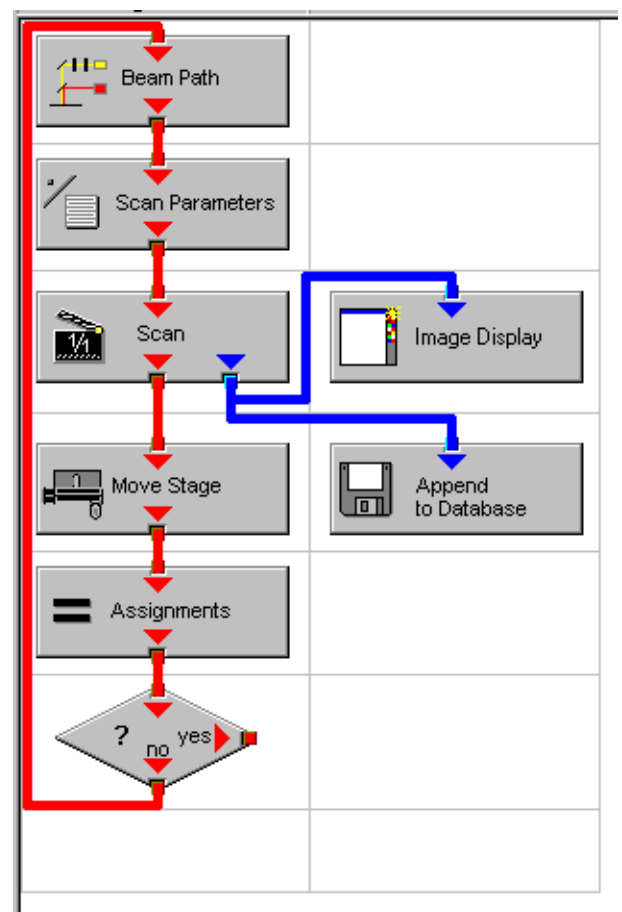

Fig. 24 Arrangement of action blocks
- Arrange and connect the action blocks (Fig. 24).